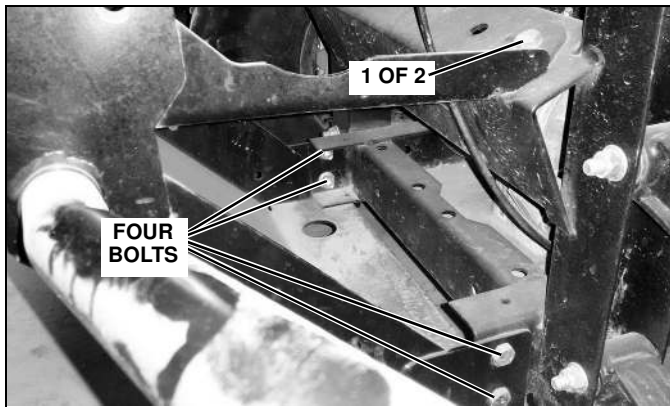

Figure 4
6. Take off the brush guard by removing the remaining hardware attaching it to the UTV. Four on the bottom and two on top. (See Figure 4.)